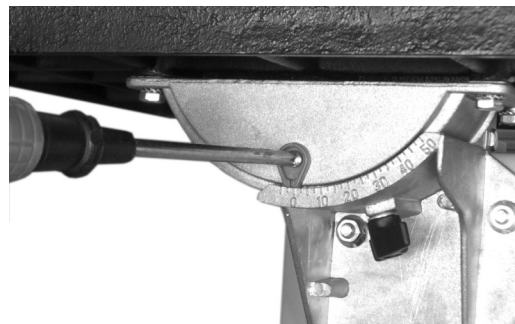

Figure 3 - Set indicator to zero.
3. Lock the table into position and check that the indicator reads zero degree on the side of lower table trunnion. Loosen the screw securing the indicator and reset if necessary to give zero degree reading (see Figure 3).